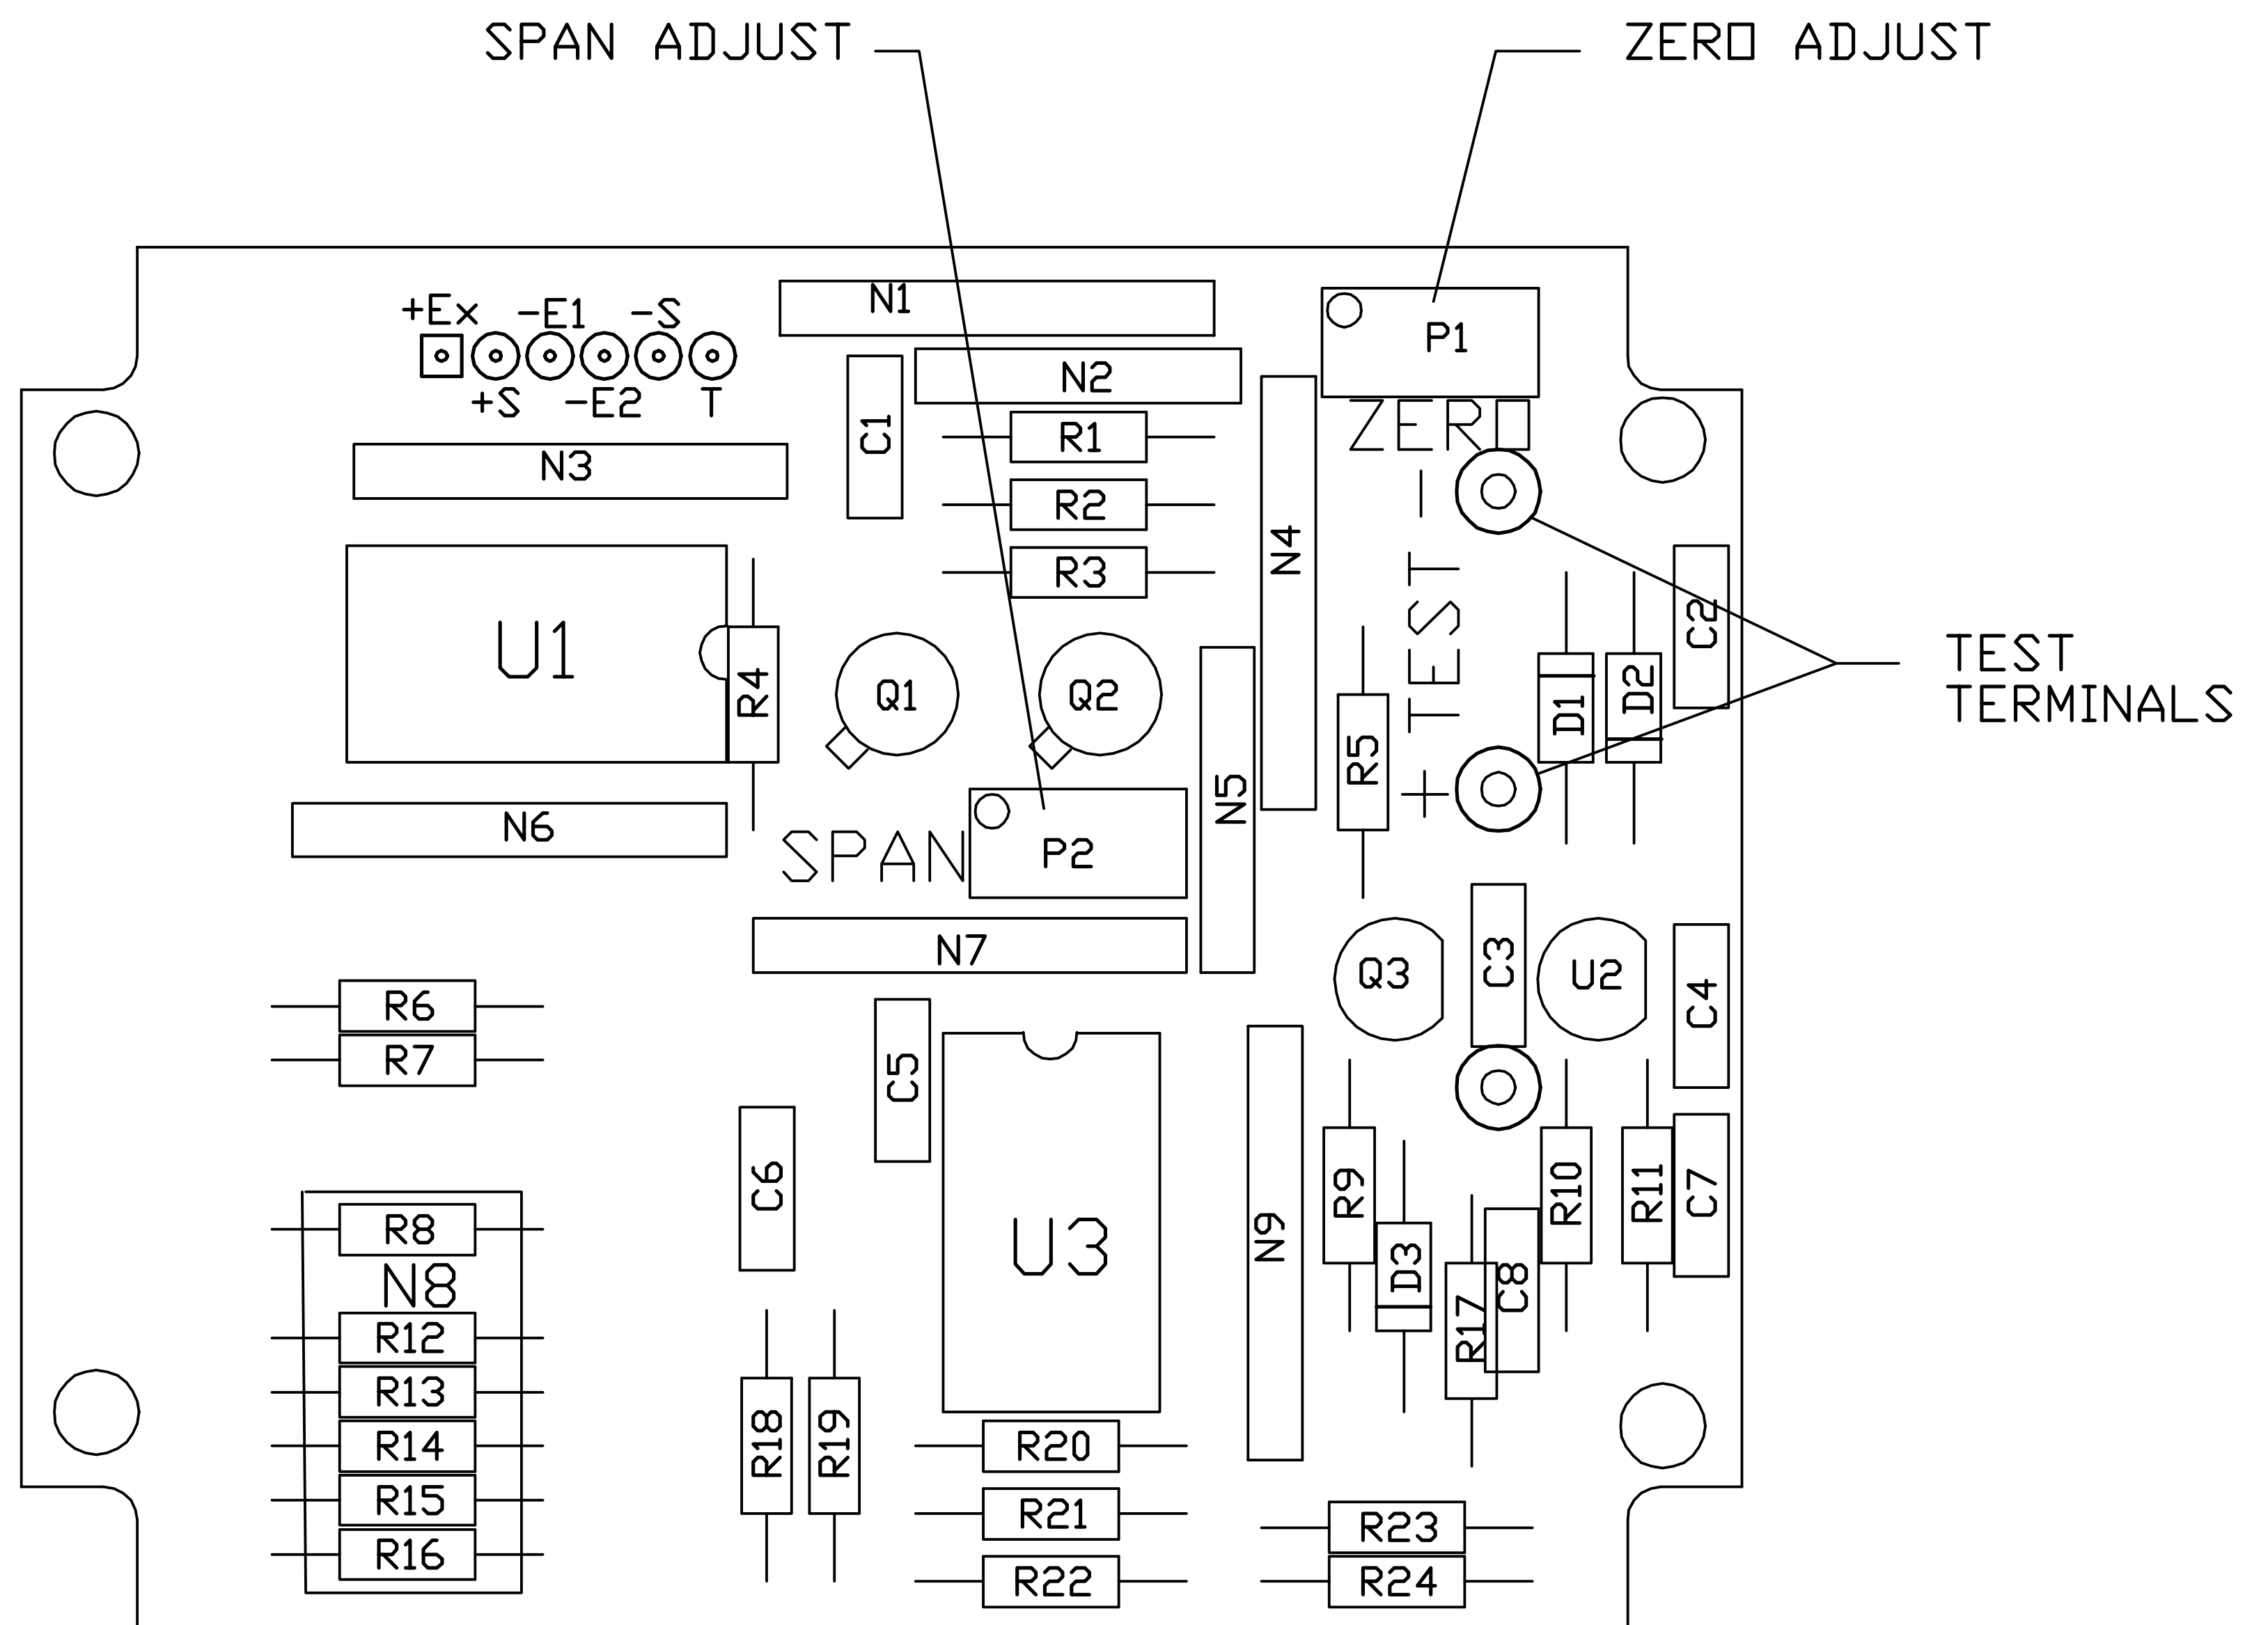

FIGURE 6-2. MAIN BOARD ASSEMBLY-CALIBRATION ADJUSTMENTS
- e) Verify that the differential pressure transducer output current indication is  $4.0 \pm 0.16$  mA dc. Perform ZERO adjustments to obtain the differential pressure transducer's output as specified. Zero is accomplished by a screwdriver adjustment of the ZERO potentiometer located on the MAIN Board Assembly inside the circuit compartment of the housing (Figure 6-2).
- h) Verify that the differential pressure transducer output current indication is  $20.0 \pm 0.16$  mA dc. Perform SPAN adjustments to obtain the pressure transducer's output as specified. Span is accomplished by a screwdriver adjustment of the SPAN potentiometer located on the MAIN Board Assembly inside the circuit compartment of the housing (Figure 6-2).